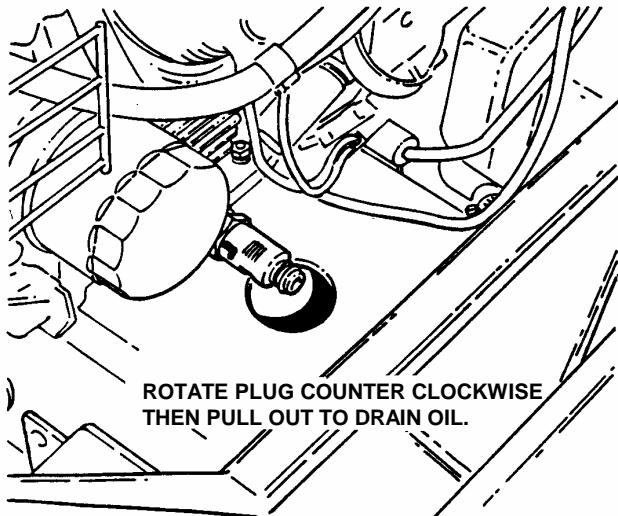

FIGURE 3.1
- b. Rotate counter clockwise and pull out to open the drain plug. See Figure 3.1.
- c. After all the oil has drained, close the drain by pushing in and rotating clockwise to close. Wipe up any oil that may have spilled. Dispose of drained oil properly. See Figure 3.1.